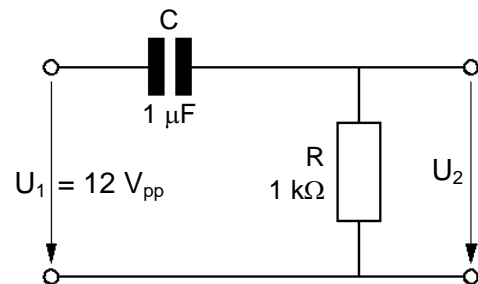

Fig. 17.2.1: RC-element as high-pass filter
- Assemble the circuit in Fig. 17.2.1 on the Electronic Circuits Board.